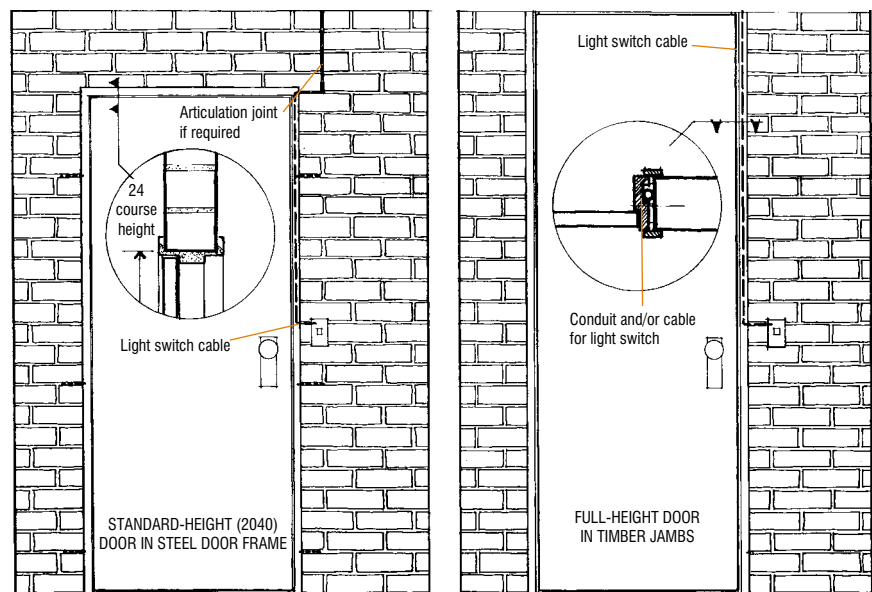

Figure 23.
Door widths that match brick openings are given in table 2 and the concepts are illustrated in figure 23.
The articulation joint should run from the door head to the ceiling and be a half-brick length away from the side of the door frame. This gives a seat for the arch bar or clay brick masonry spanning the opening. See figure 23.
- Use full-height door frames to route cables from the ceiling space to the switch location. (See figures 23 and 24.)
- Use architrave-mounted switches where possible. Alternatively use surface-mounted switches located within 150 mm of the door frame. (See figures 23 and 24.)